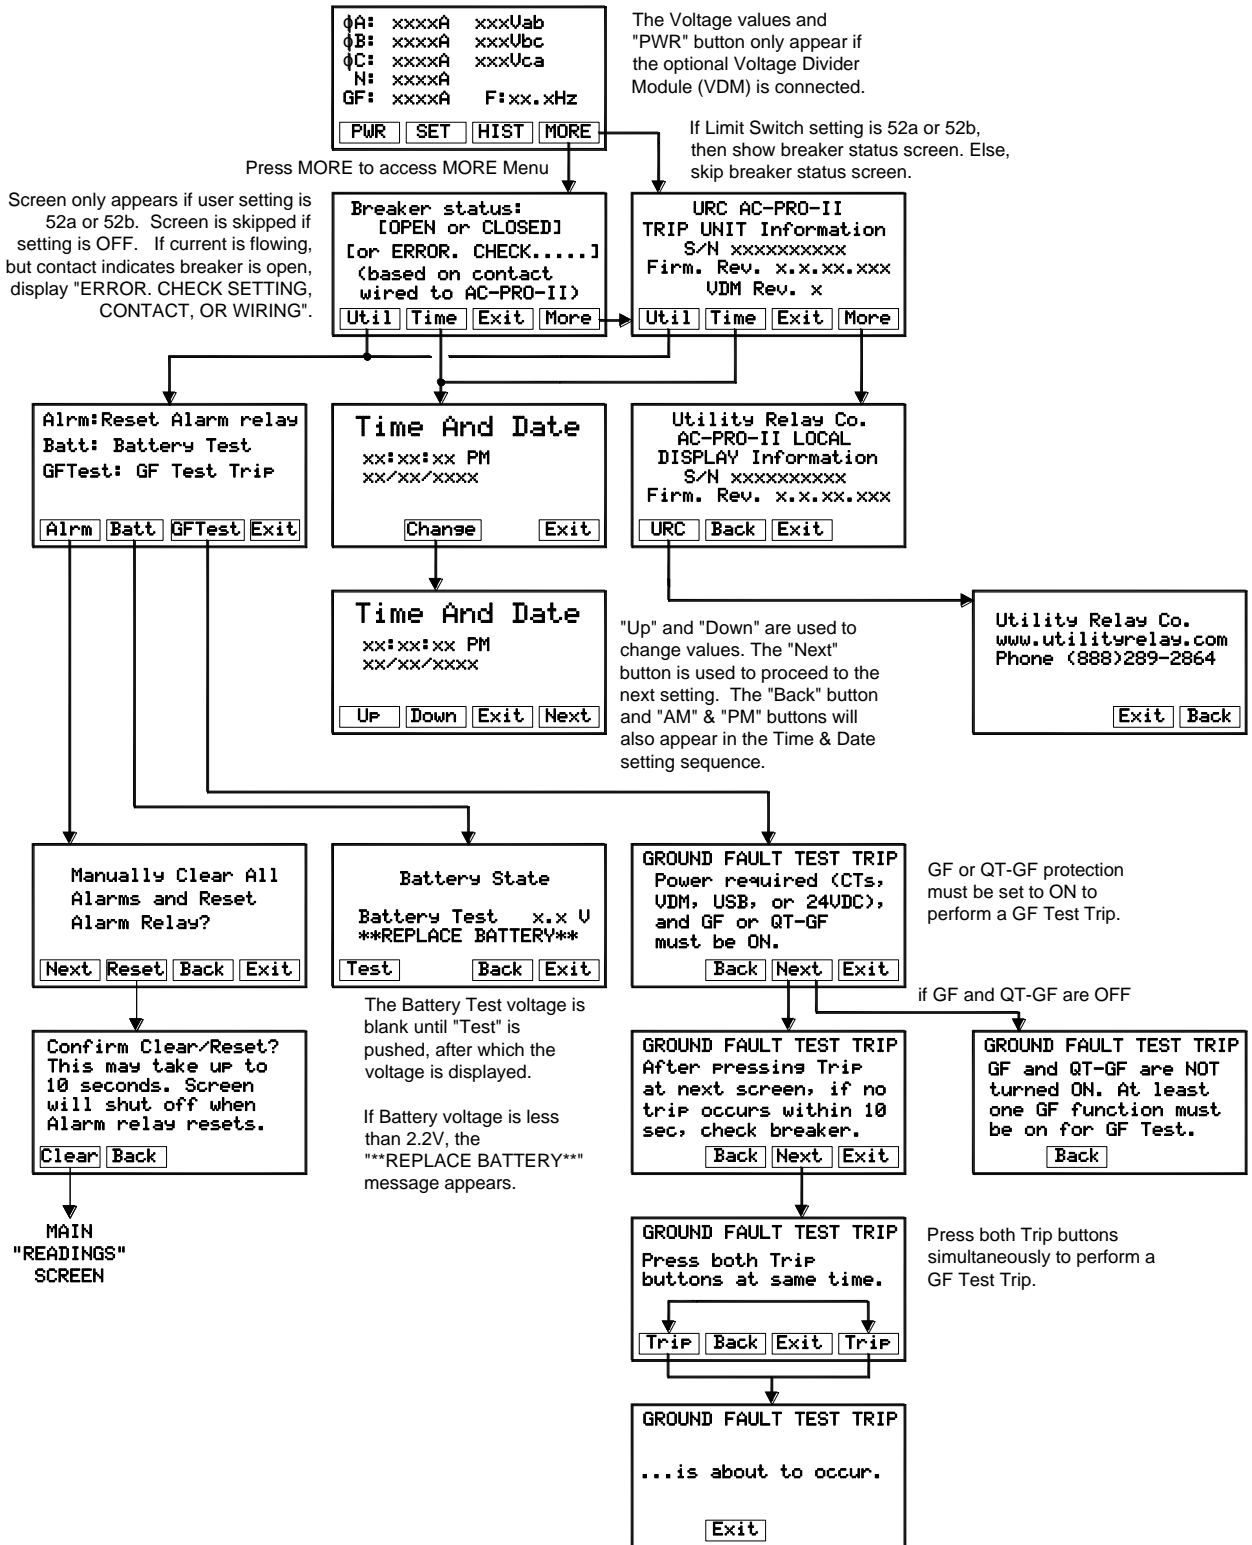

Figure 6.5: MORE Menu
The time and date setting is accessed via the MORE menu, by pressing the MORE button at the main screen, then the time button, then the change button, as shown and noted below in Figure 6.5.
The trip unit can perform a Ground Fault trip test. This simulates a measured Ground Fault condition, and tests the trip unit's ability to perform a trip. Ground Fault Protection or Quick-Trip Ground Fault Protection must be turned on to perform a Ground Fault Test Trip. See Figure 6.5.
**NOTE:** The AC-PRO-II Firmware version and the "VDM rev" can be viewed on the AC-PRO-II screen in the "More" menu. See Figure 6.5. From the "Main/Readings screen", press "More" to see this information.